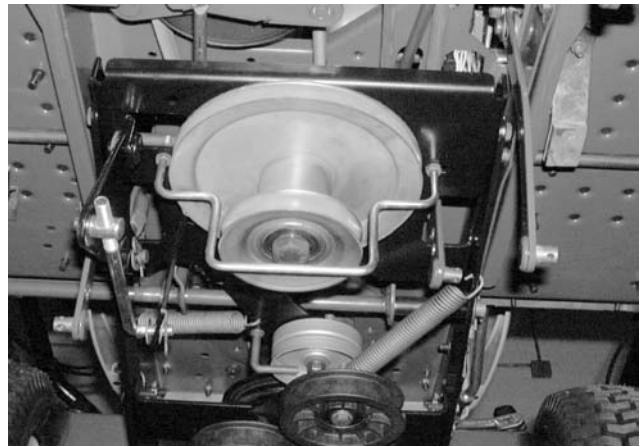

Figure 12-83.
- Thread the adjustable lift link all the way up and insert the adjustable lift link into the hole in the idler engagement bracket. Secure with the hairpin clip from the deck assembly. See Figure 12-83.